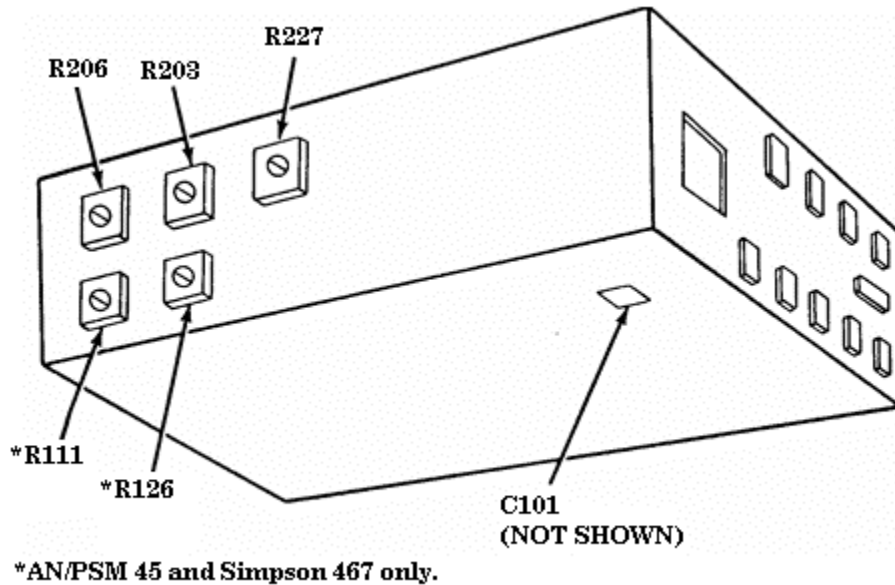

Figure 1. Adjustment locations.
- (1) Short leads and adjust R111 (fig. 1) for a TI bar graph display of 0 segments.
- (2) Set calibrator for an output amplitude of 200 mV and adjust R126 (fig. 1) for a TI bar graph display of 20 segments.
- (3) Set calibrator for an output amplitude of 190 mV and adjust R227 (fig. 1) for a TI indication of 190.0 (R).
(1) Short TI leads and adjust R206 (fig. 1) for a TI indication of 0.00.
(2) Set calibrator for an output amplitude of 190.0 mV at a frequency of 1 kHz and adjust R203 (fig. 1) for a TI indication of 190.0 mV (R).
(3) Set TI to 2 V range and set calibrator for an output amplitude of 1.900 V at a frequency of 5 kHz and adjust C101 (fig. 1) for a TI indication of 1.900 V (R).